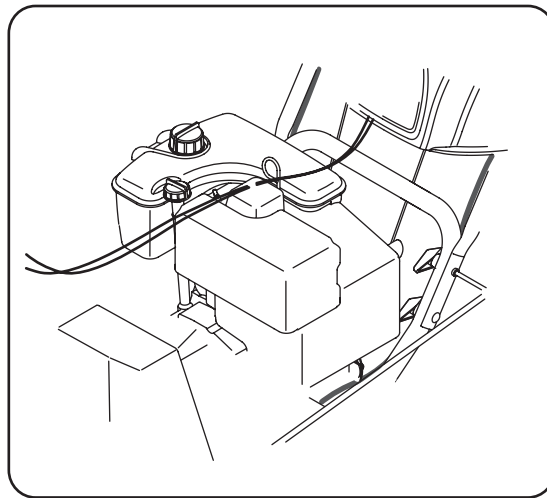

Figure 6
- If not already attached, slip the cables that run from the handle panel to the discharge chute into the cable guide located on top of the engine. See Figure 6.